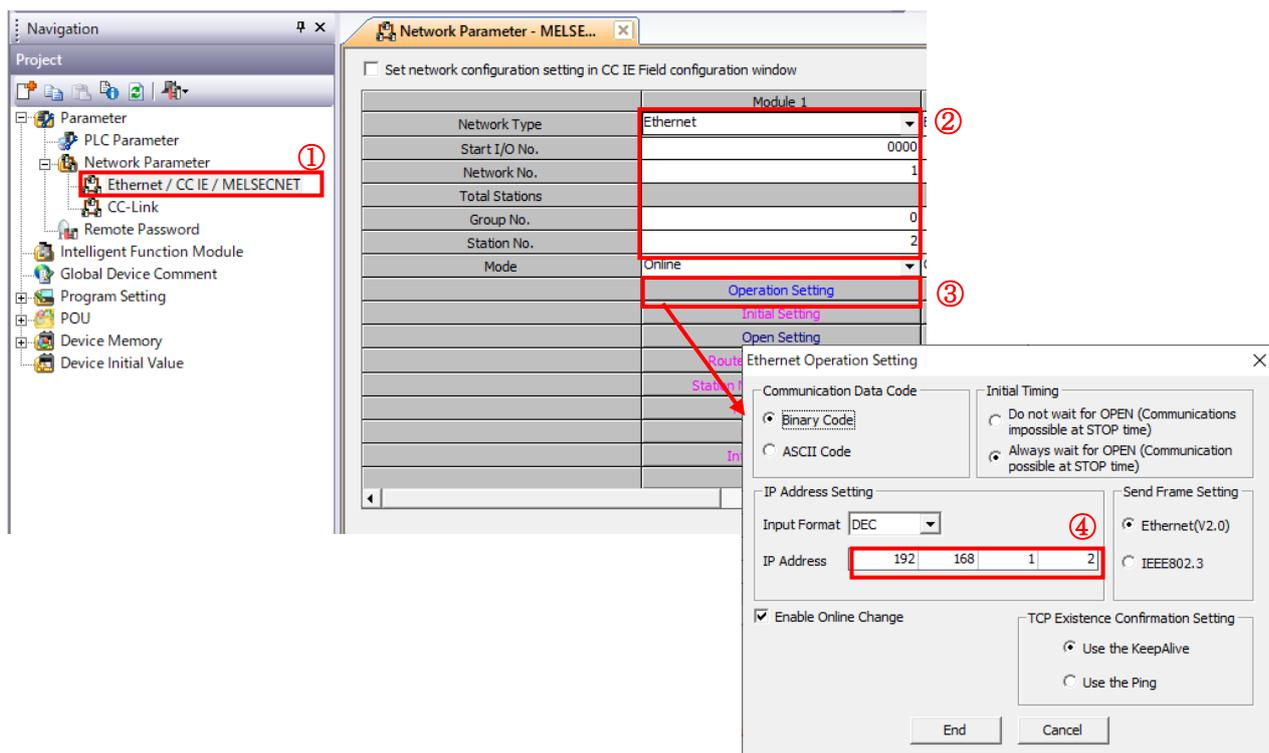

Figure 3-3 Extended Ethernet unit 1 parameter setting
- ① to ④ in Figure 3-3 show the setting procedures of the extended Ethernet unit 1.
- ① From the navigation tree menu, click Ethernet/CC IE/MELSECNET.
- ② Select "Network type: Ethernet" in Unit 1 settings, and enter the network number and station number.
- ③ Opens the Operation Setting.
- ④ Enter the IP address.